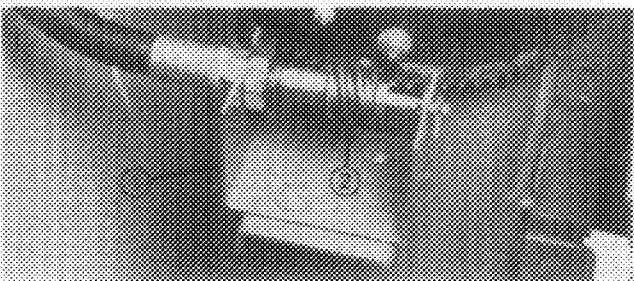

Figure 10
- Check operation of chute crank and discharge chute. Readjust worm gear, if necessary, by loosening worm bracket mounting screws (Fig. 10), firmly pushing worm gear against teeth in retaining ring and retightening locknuts.